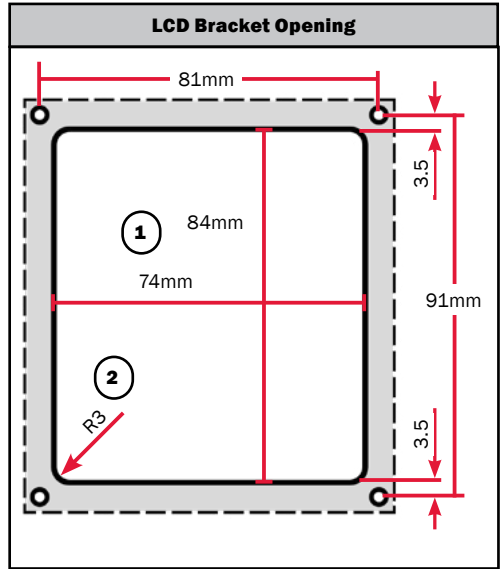

Figure 24
- The non-return valve (#6 Figure 24) must be installed in the proper direction.